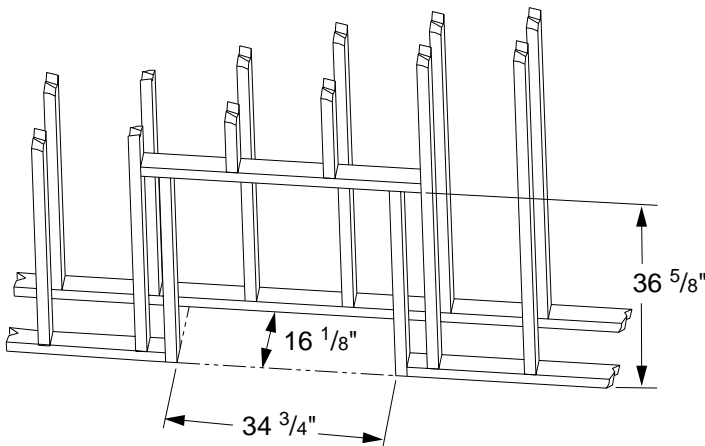

Figure 7 - Rough Opening for Installing in Wall
1. Frame appliance enclosure as illustrated in Figures 7 and 8.